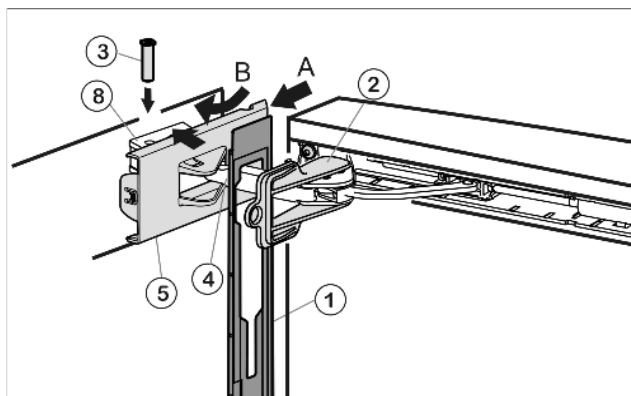

Fig. 39
- Hook panel Fig. 39 (1) into the damper bracket Fig. 39 (4) such that the detent hooks are pointing inwards and the front side is facing the appliance.
- Push on cover Fig. 39 (5) from the outside (A) and pivot over the bearing part Fig. 39 (8) (B).
- Place cover Fig. 39 (5) on top and allow to snap into place until the first notch.
- Pull damper bracket Fig. 39 (4) towards bearing part and insert bolt Fig. 39 (3) from above such that the square is resting in the recess.
- Now snap cover Fig. 39 (5) completely into place on the bearing part Fig. 39 (8).
- Remove locking device Fig. 39 (2) by twisting it.
- Snap panel Fig. 39 (1) into place on the door.